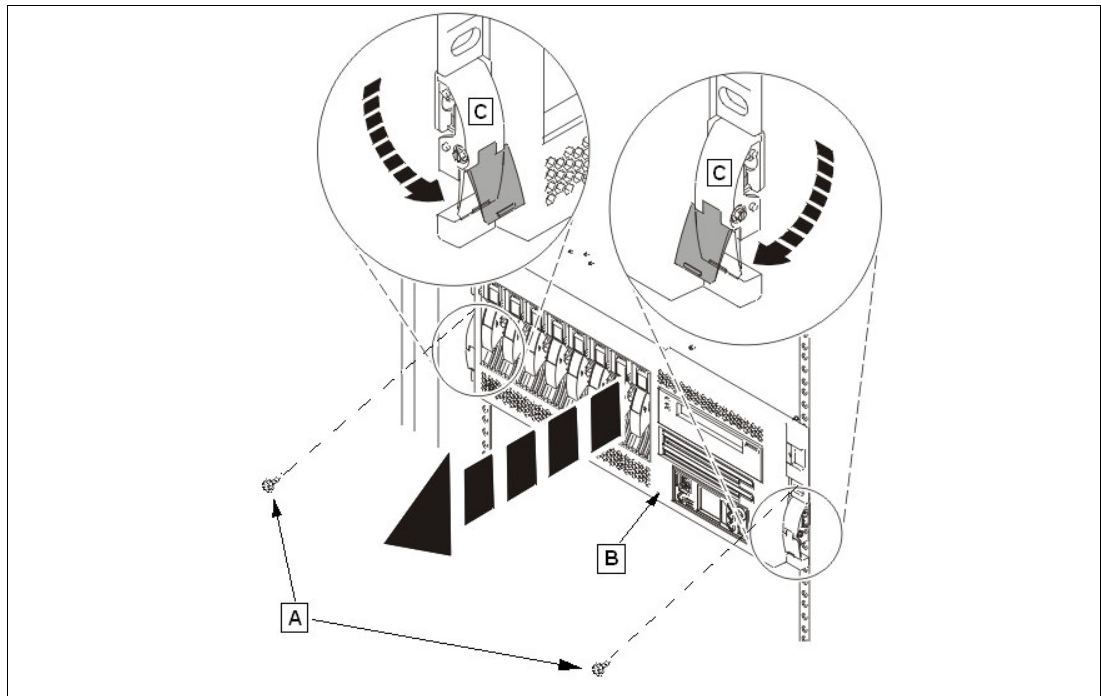

Figure 2-17 Pull the server to the service position
2. Remove the two thumbscrews A that secure the system or expansion unit B to the rack as shown in the Figure 2-17.
3. Release the rack latches C on both the left and right sides as shown in the Figure 2-17.